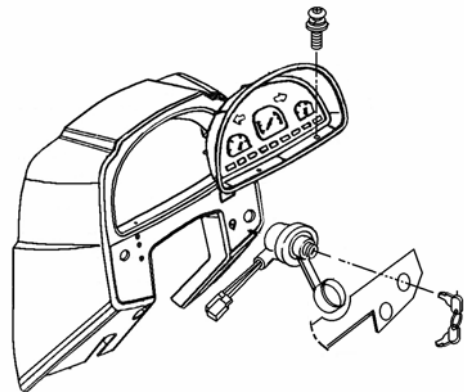

Fig.10-8
- c. Pull out the key switch as shown in Fig.10-8